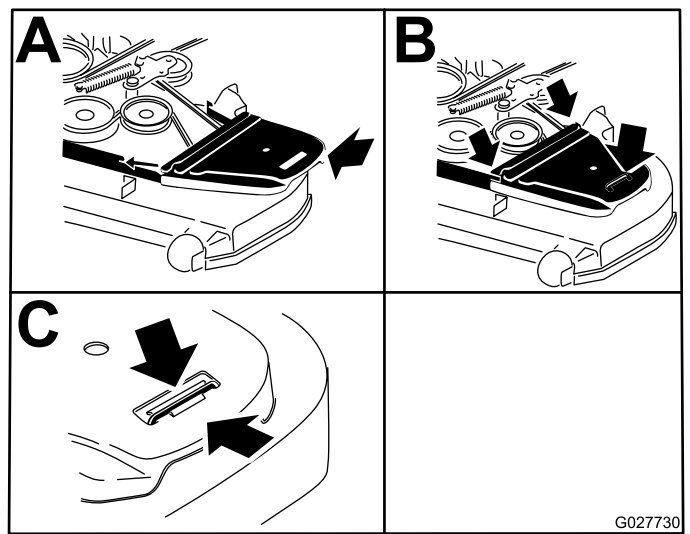

Figure 99
12. Install the belt covers (Figure 99).